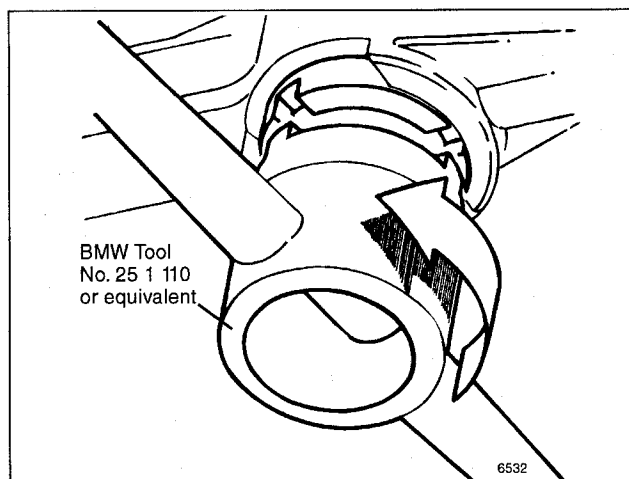

Fig. 4. Shift lever retaining ring being removed using BMW special tool 25 1 110.
9. Release gearshift lever retaining ring from below by turning special tool 90° (¼ turn) counterclockwise. See Fig. 4.